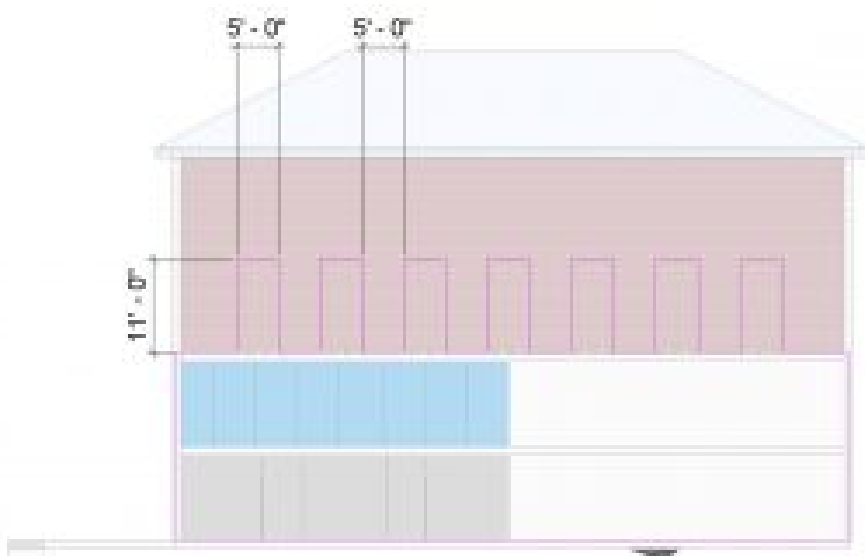

Figure 2.23 Modified profile on CMU wall
25. Following Figure 2.23 redraw the profile of the wall